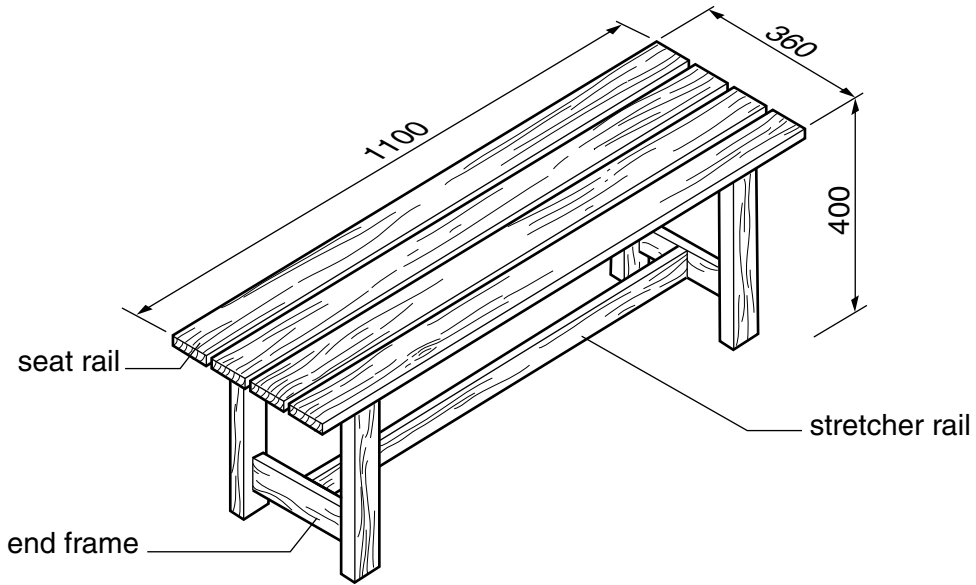

Fig. 8
- 5 Fig. 8 shows a garden seat made from softwood. The garden seat is sold as flat-pack for self-assembly.